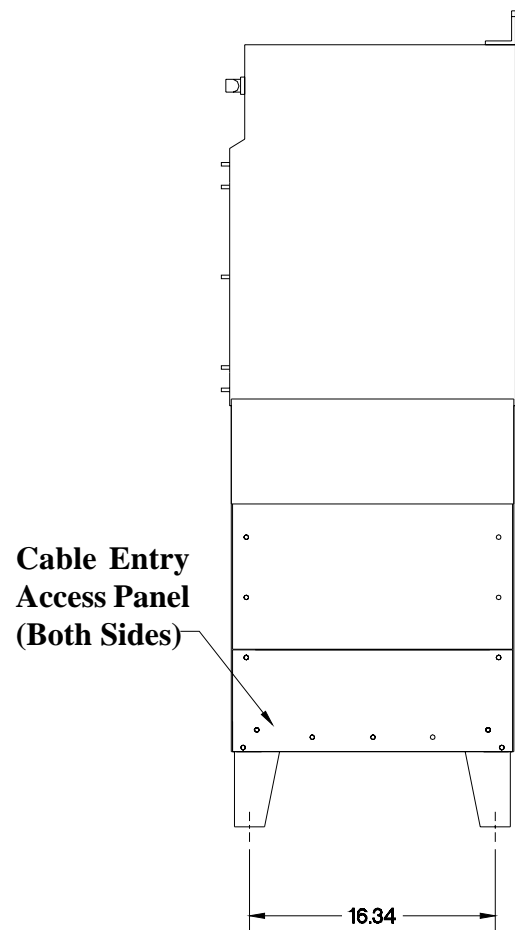

Figure 3-3
5. Two access panels on the lower enclosure are provided for cable entry, shown in **Figure 3-3**. (See following page.)